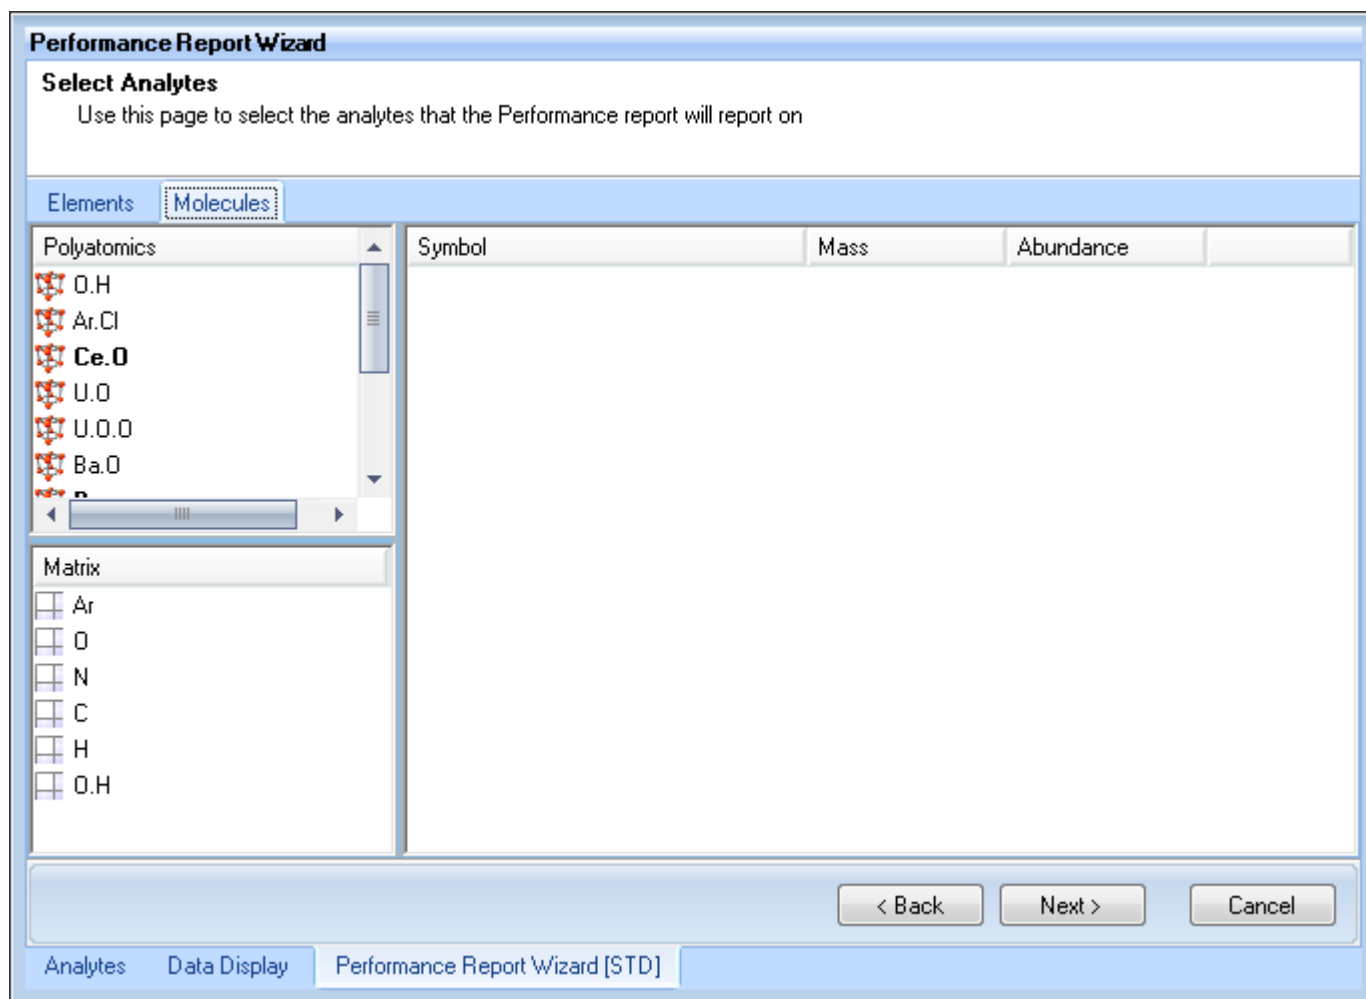

Figure 4-23. Selecting molecules
9. Click the **Molecules** tab and select molecules, if appropriate, see Figure 4-23.